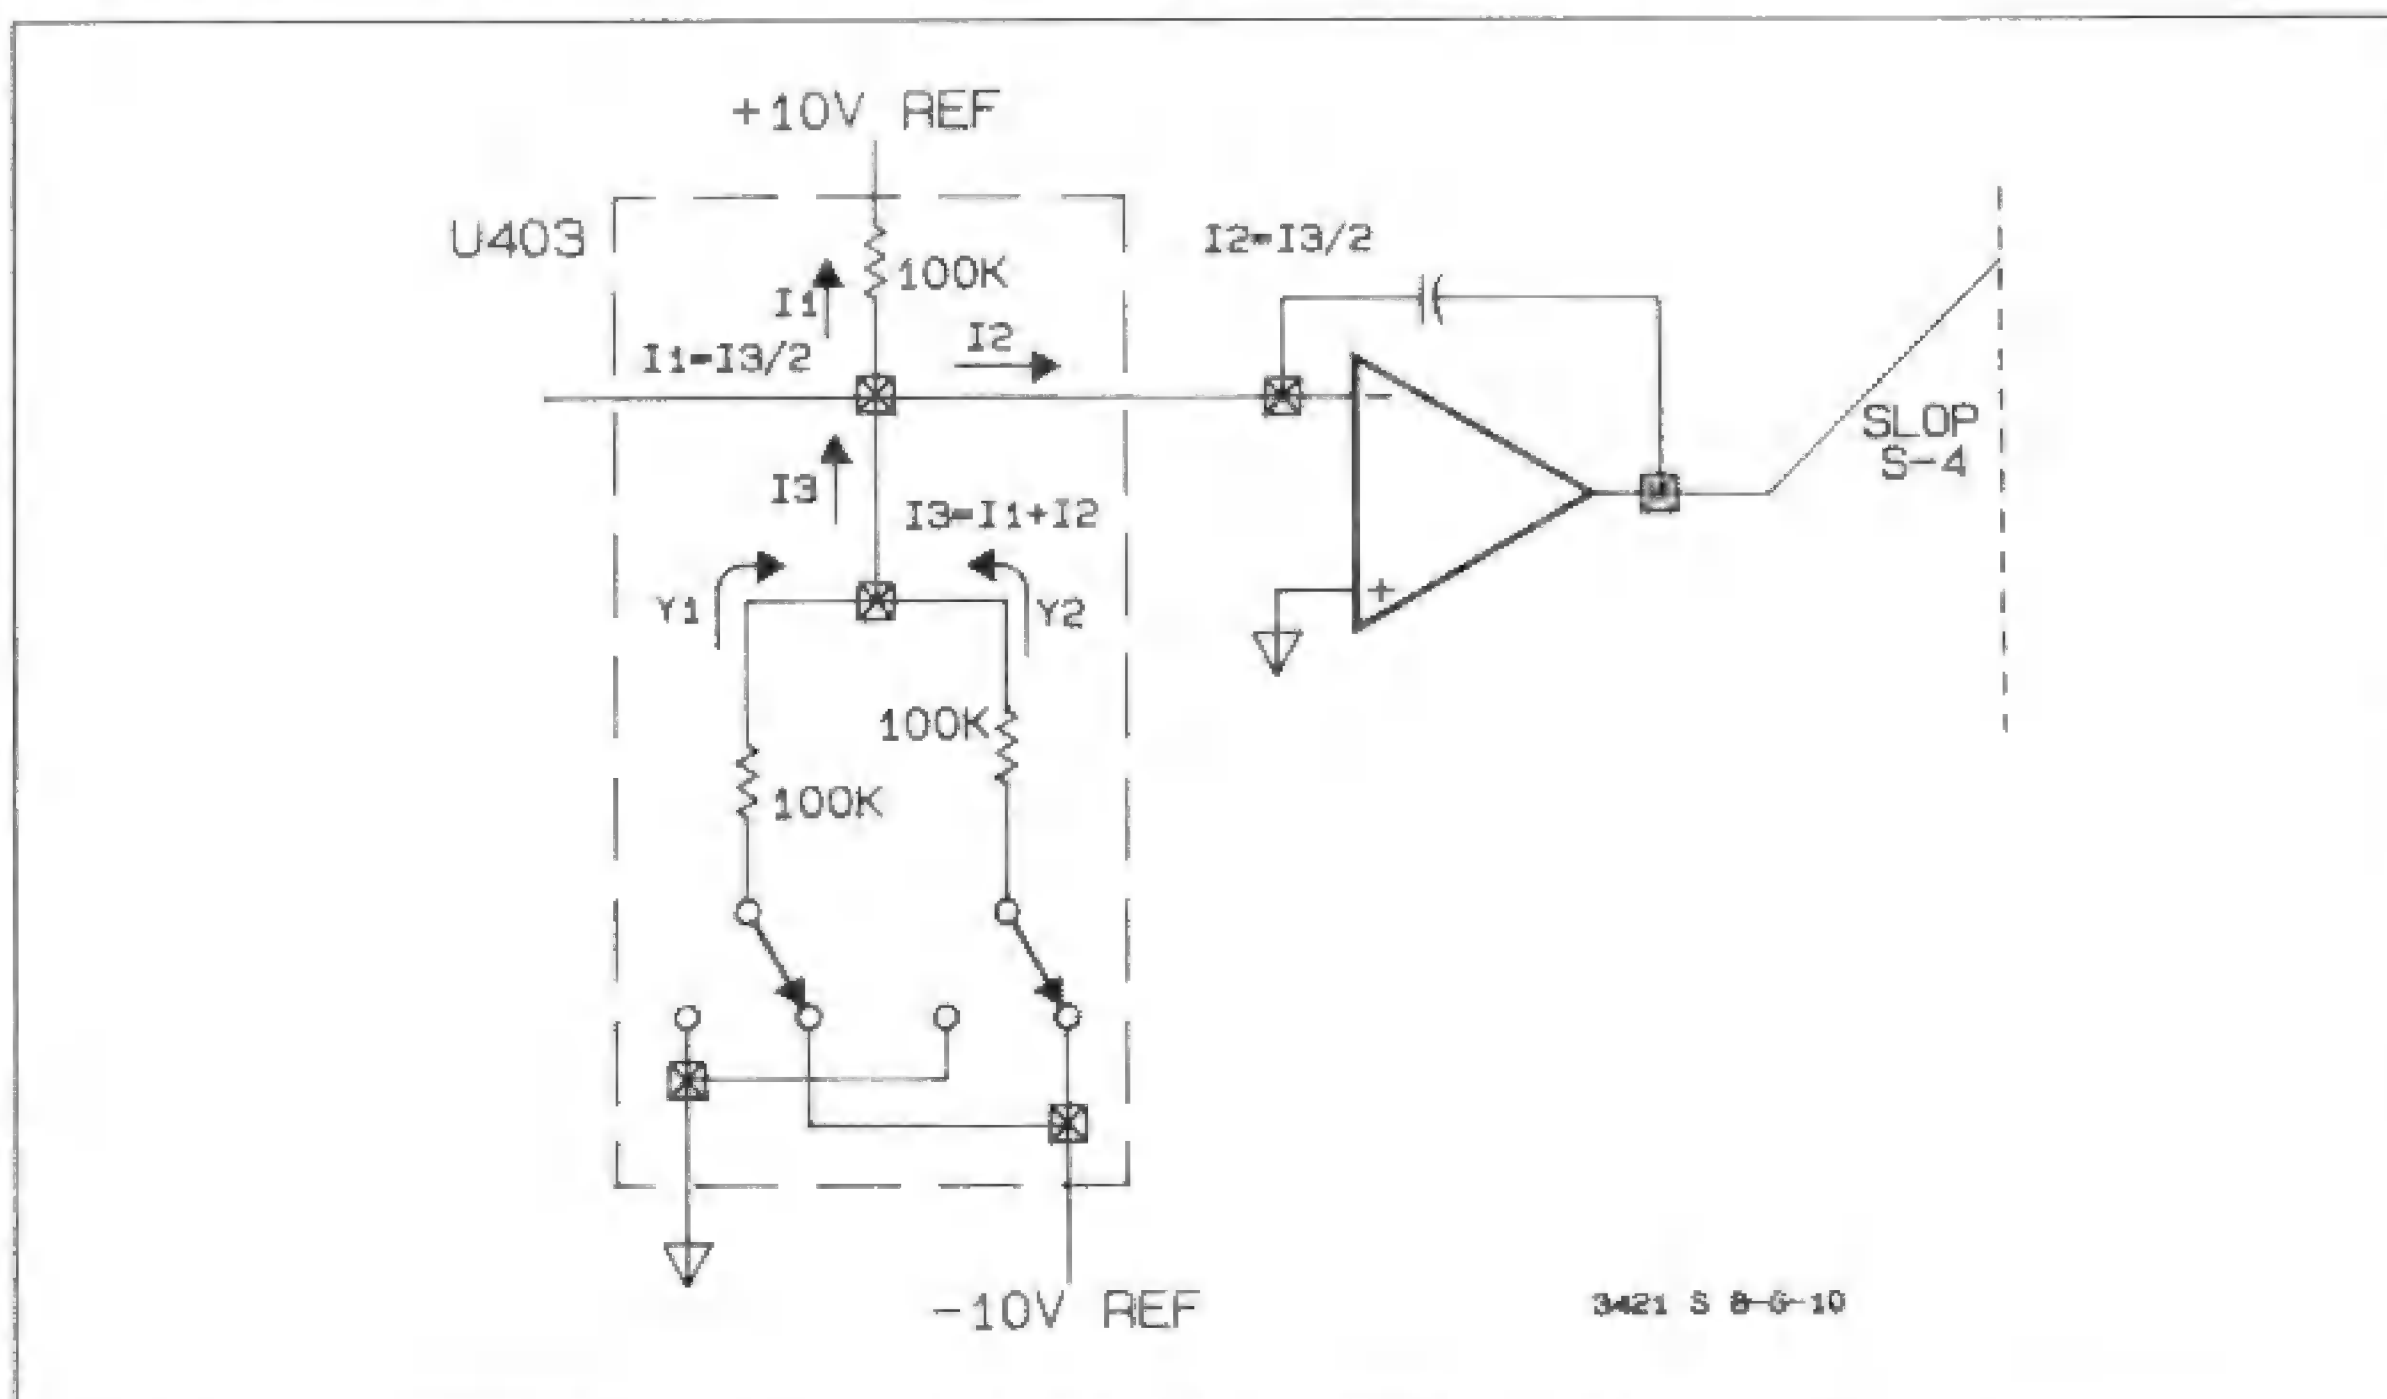

Figure 1-8-G-10. Slope S-4 Generation
**1-8-G-50. Slopes S + 0 and S - 0 Generation.** Refer to Figure 1-8-G-11 for the S + 0 and S - 0 slope generation. Notice that path Y1 connects + Vref to ground through two 100kΩ resistors, and path Y2 connects - Vref to + Vref through two 100kΩ resistors. In this configuration, current flows in the Y2 and Y3 paths from - Vref to + Vref through two 100kΩ resistors, and there is no current in the Y1 path. This results in zero volts at the negative input to the integrator (assuming there is no input voltage being applied), and therefore no charge is developed across the integrator capacitor.